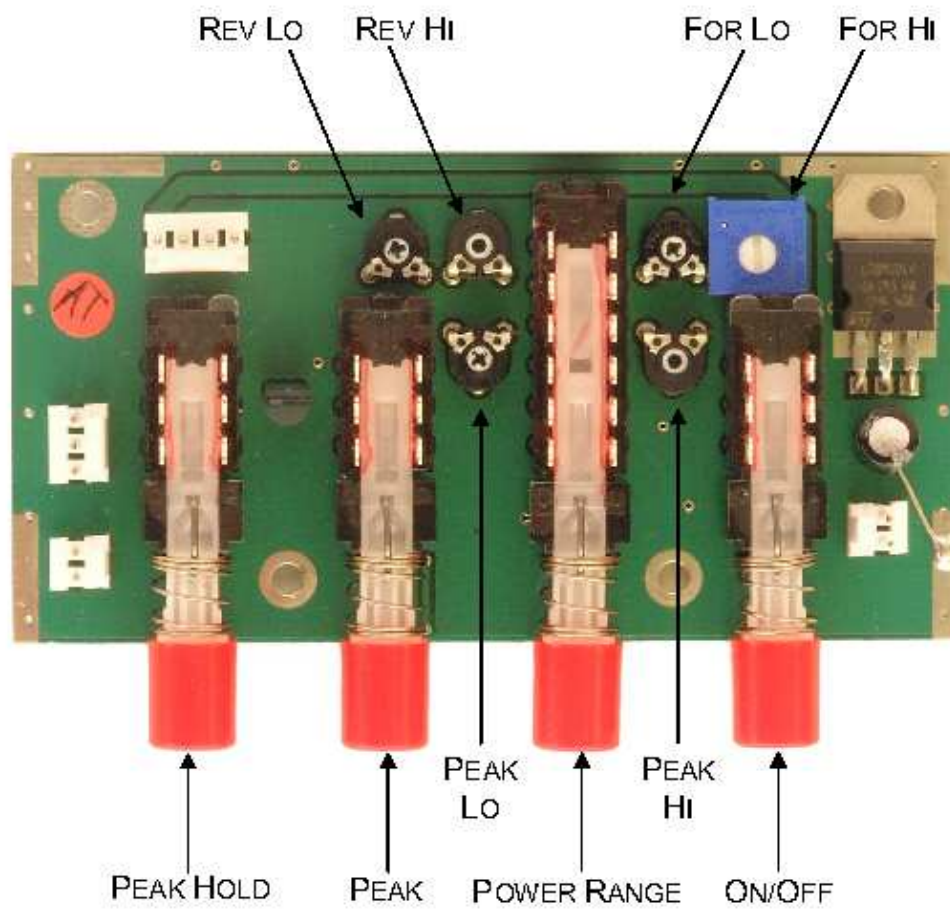

Figure 10.1: Meter Board Adjustment Locations
- (e) Adjust the **FOR LO** potentiometer (Figure 10.1, page 80) so that the AT-AUTO_(tm)'s forward power indication matches that shown on the calibrated Wattmeter.
- (c) Adjust the **PEAK LO** potentiometer (Figure 10.1) so that the AT-AUTO_(tm)'s forward power indication matches that shown on the calibrated Wattmeter.
- (c) Adjust the **PEAK HI** potentiometer (Figure 10.1) so that the AT-AUTO_(tm)'s forward power indication matches that shown on the calibrated Wattmeter.
- (c) Adjust the **FOR HI** potentiometer (Figure 10.1) so that the AT-AUTO_(tm)'s forward power indication matches that shown on the calibrated Wattmeter.
- (b) Adjust the **REV HI** potentiometer (Figure 10.1) so that the AT-AUTO_(tm)'s reflected power indication matches the forward power displayed on the calibrated Wattmeter.
- (c) Adjust the **REV LO** potentiometer (Figure 10.1) so that the AT-AUTO_(tm)'s reflected power indication matches the forward power displayed on the calibrated Wattmeter.